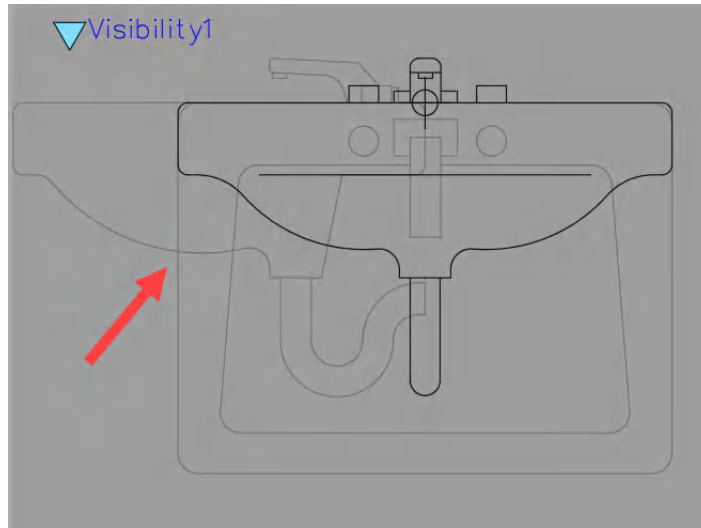

Figure 12.33: The visibility state with the front view visible
9. The **Washbasin-FRONT** visibility state should look like *Figure 12.33*, where the block displaying the front view is visible and the other two side and top blocks are invisible (grayed out).